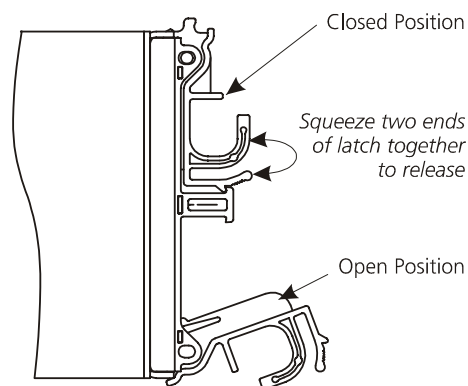

Figure 2-11 I/O Module Latch Operation
- 2 With the latch in the open position, see Figure 2-11, slide the I/O module into the enclosure until the latch engages automatically.